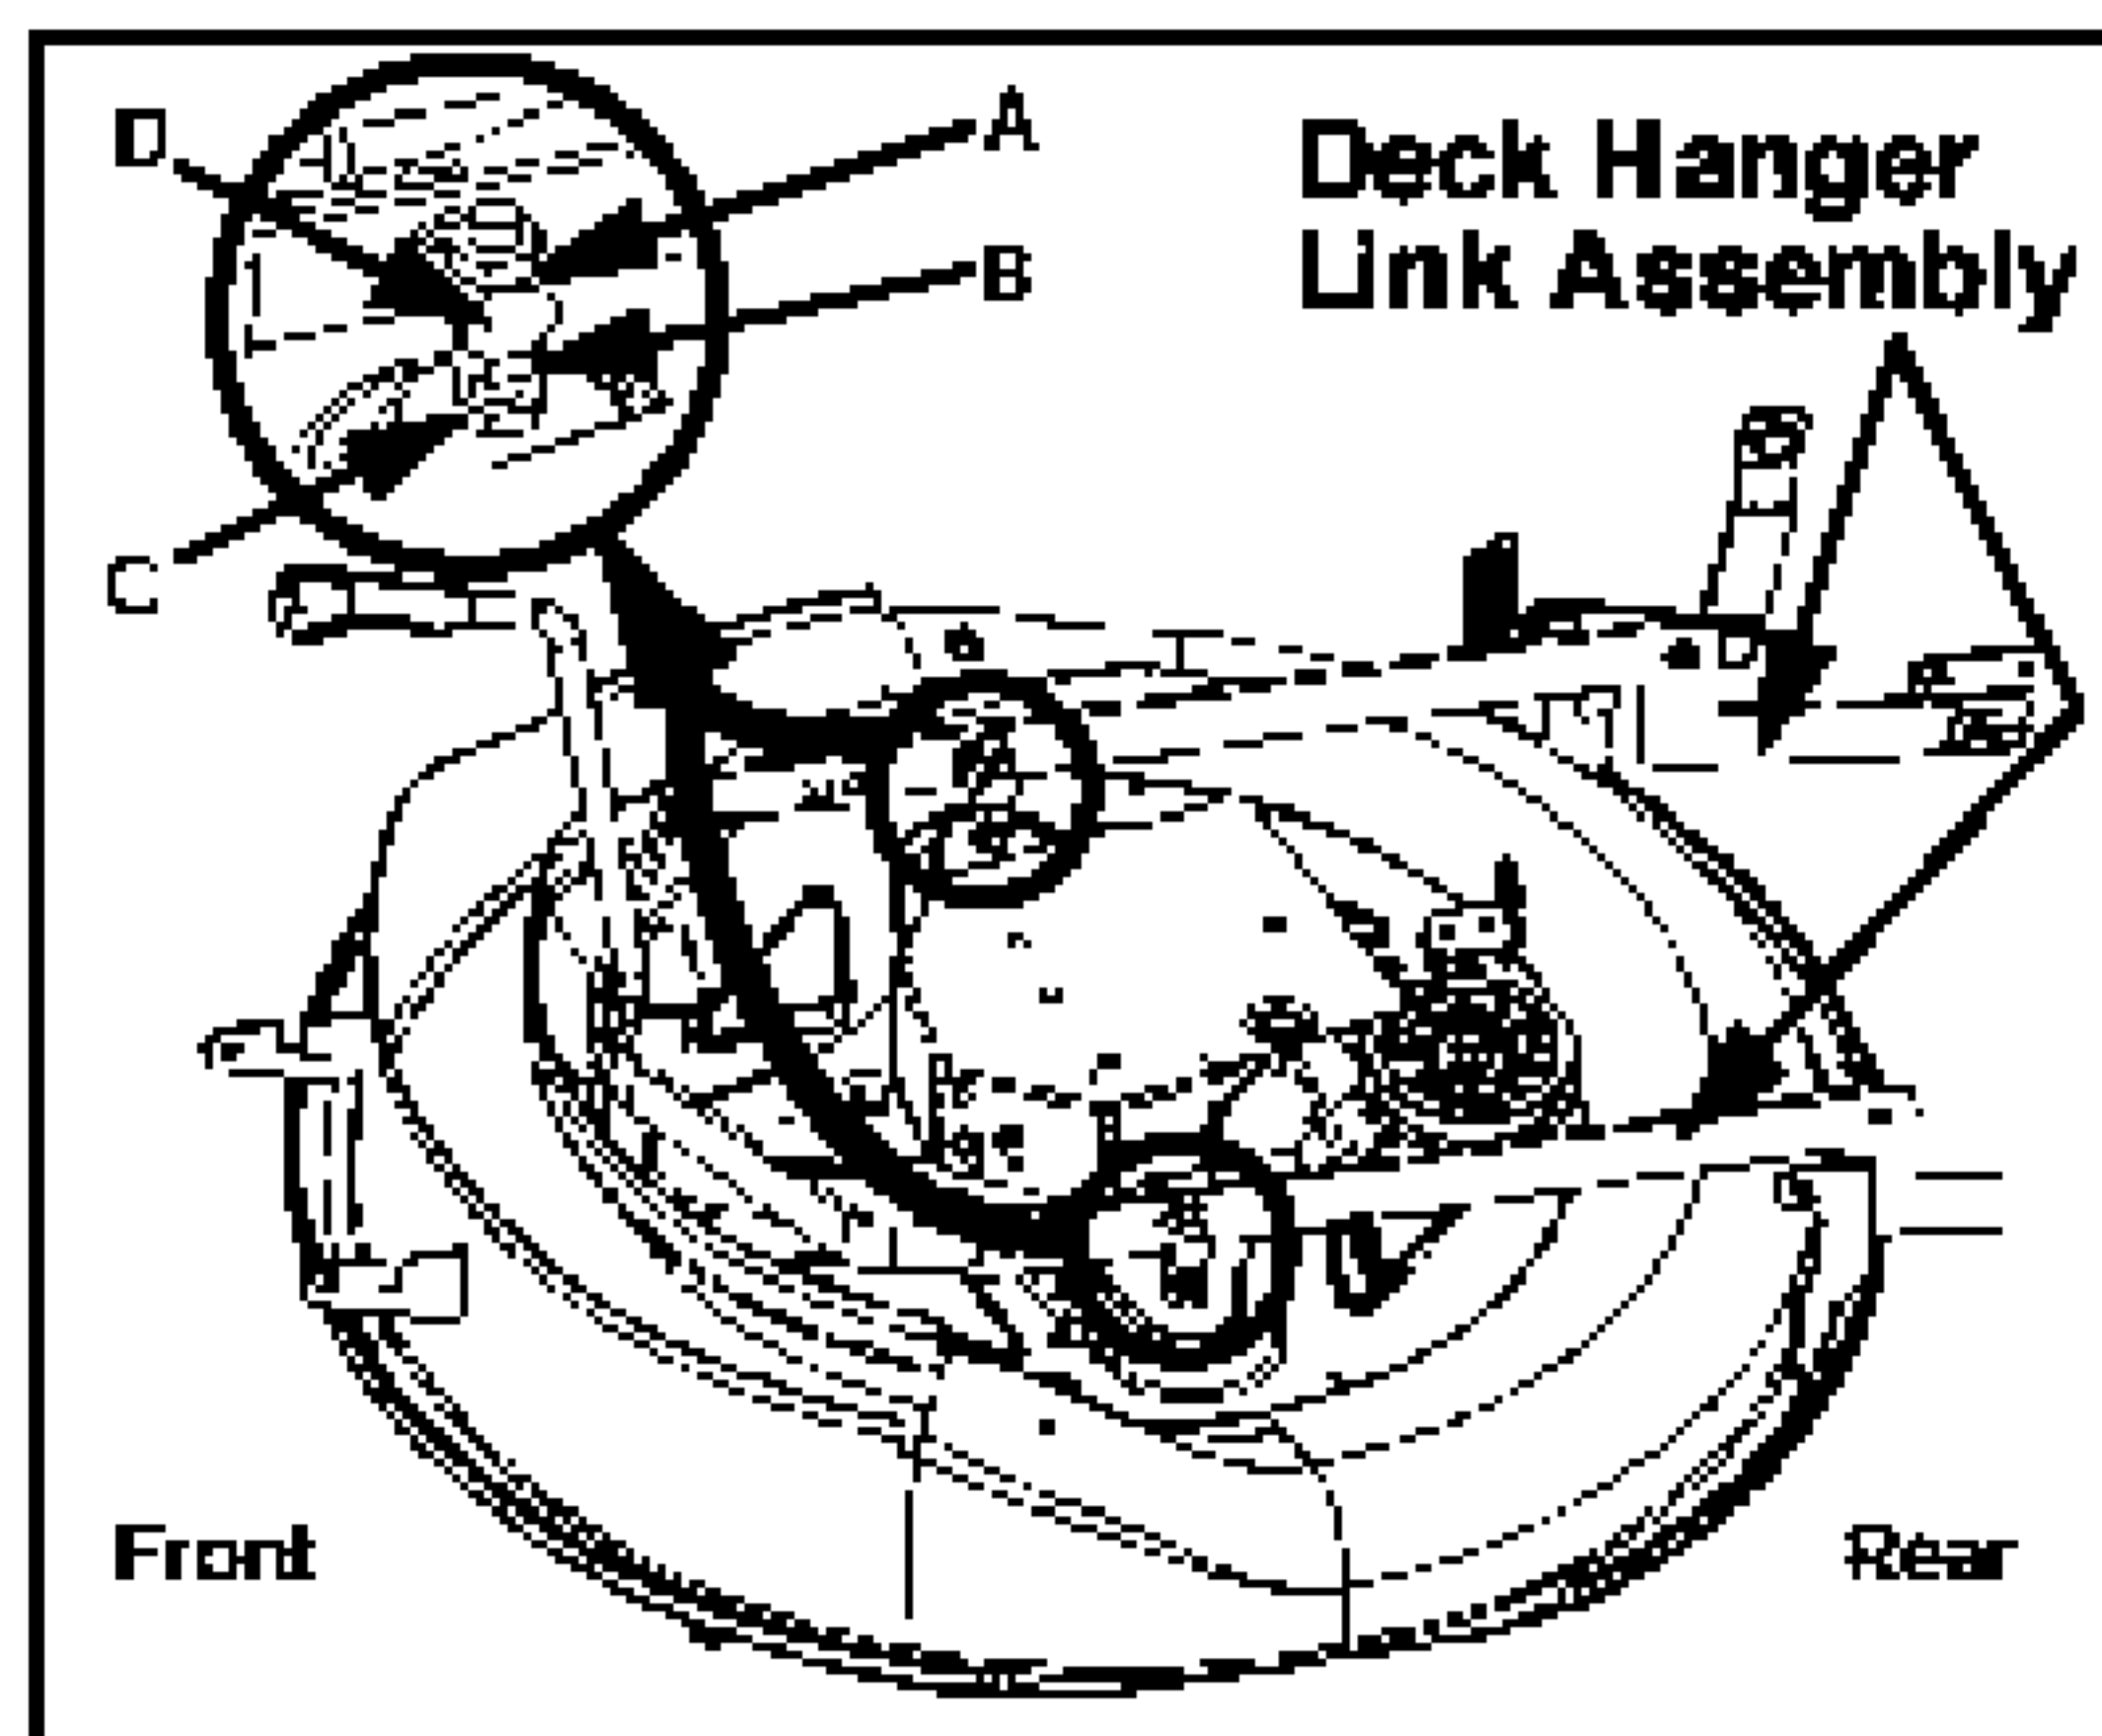
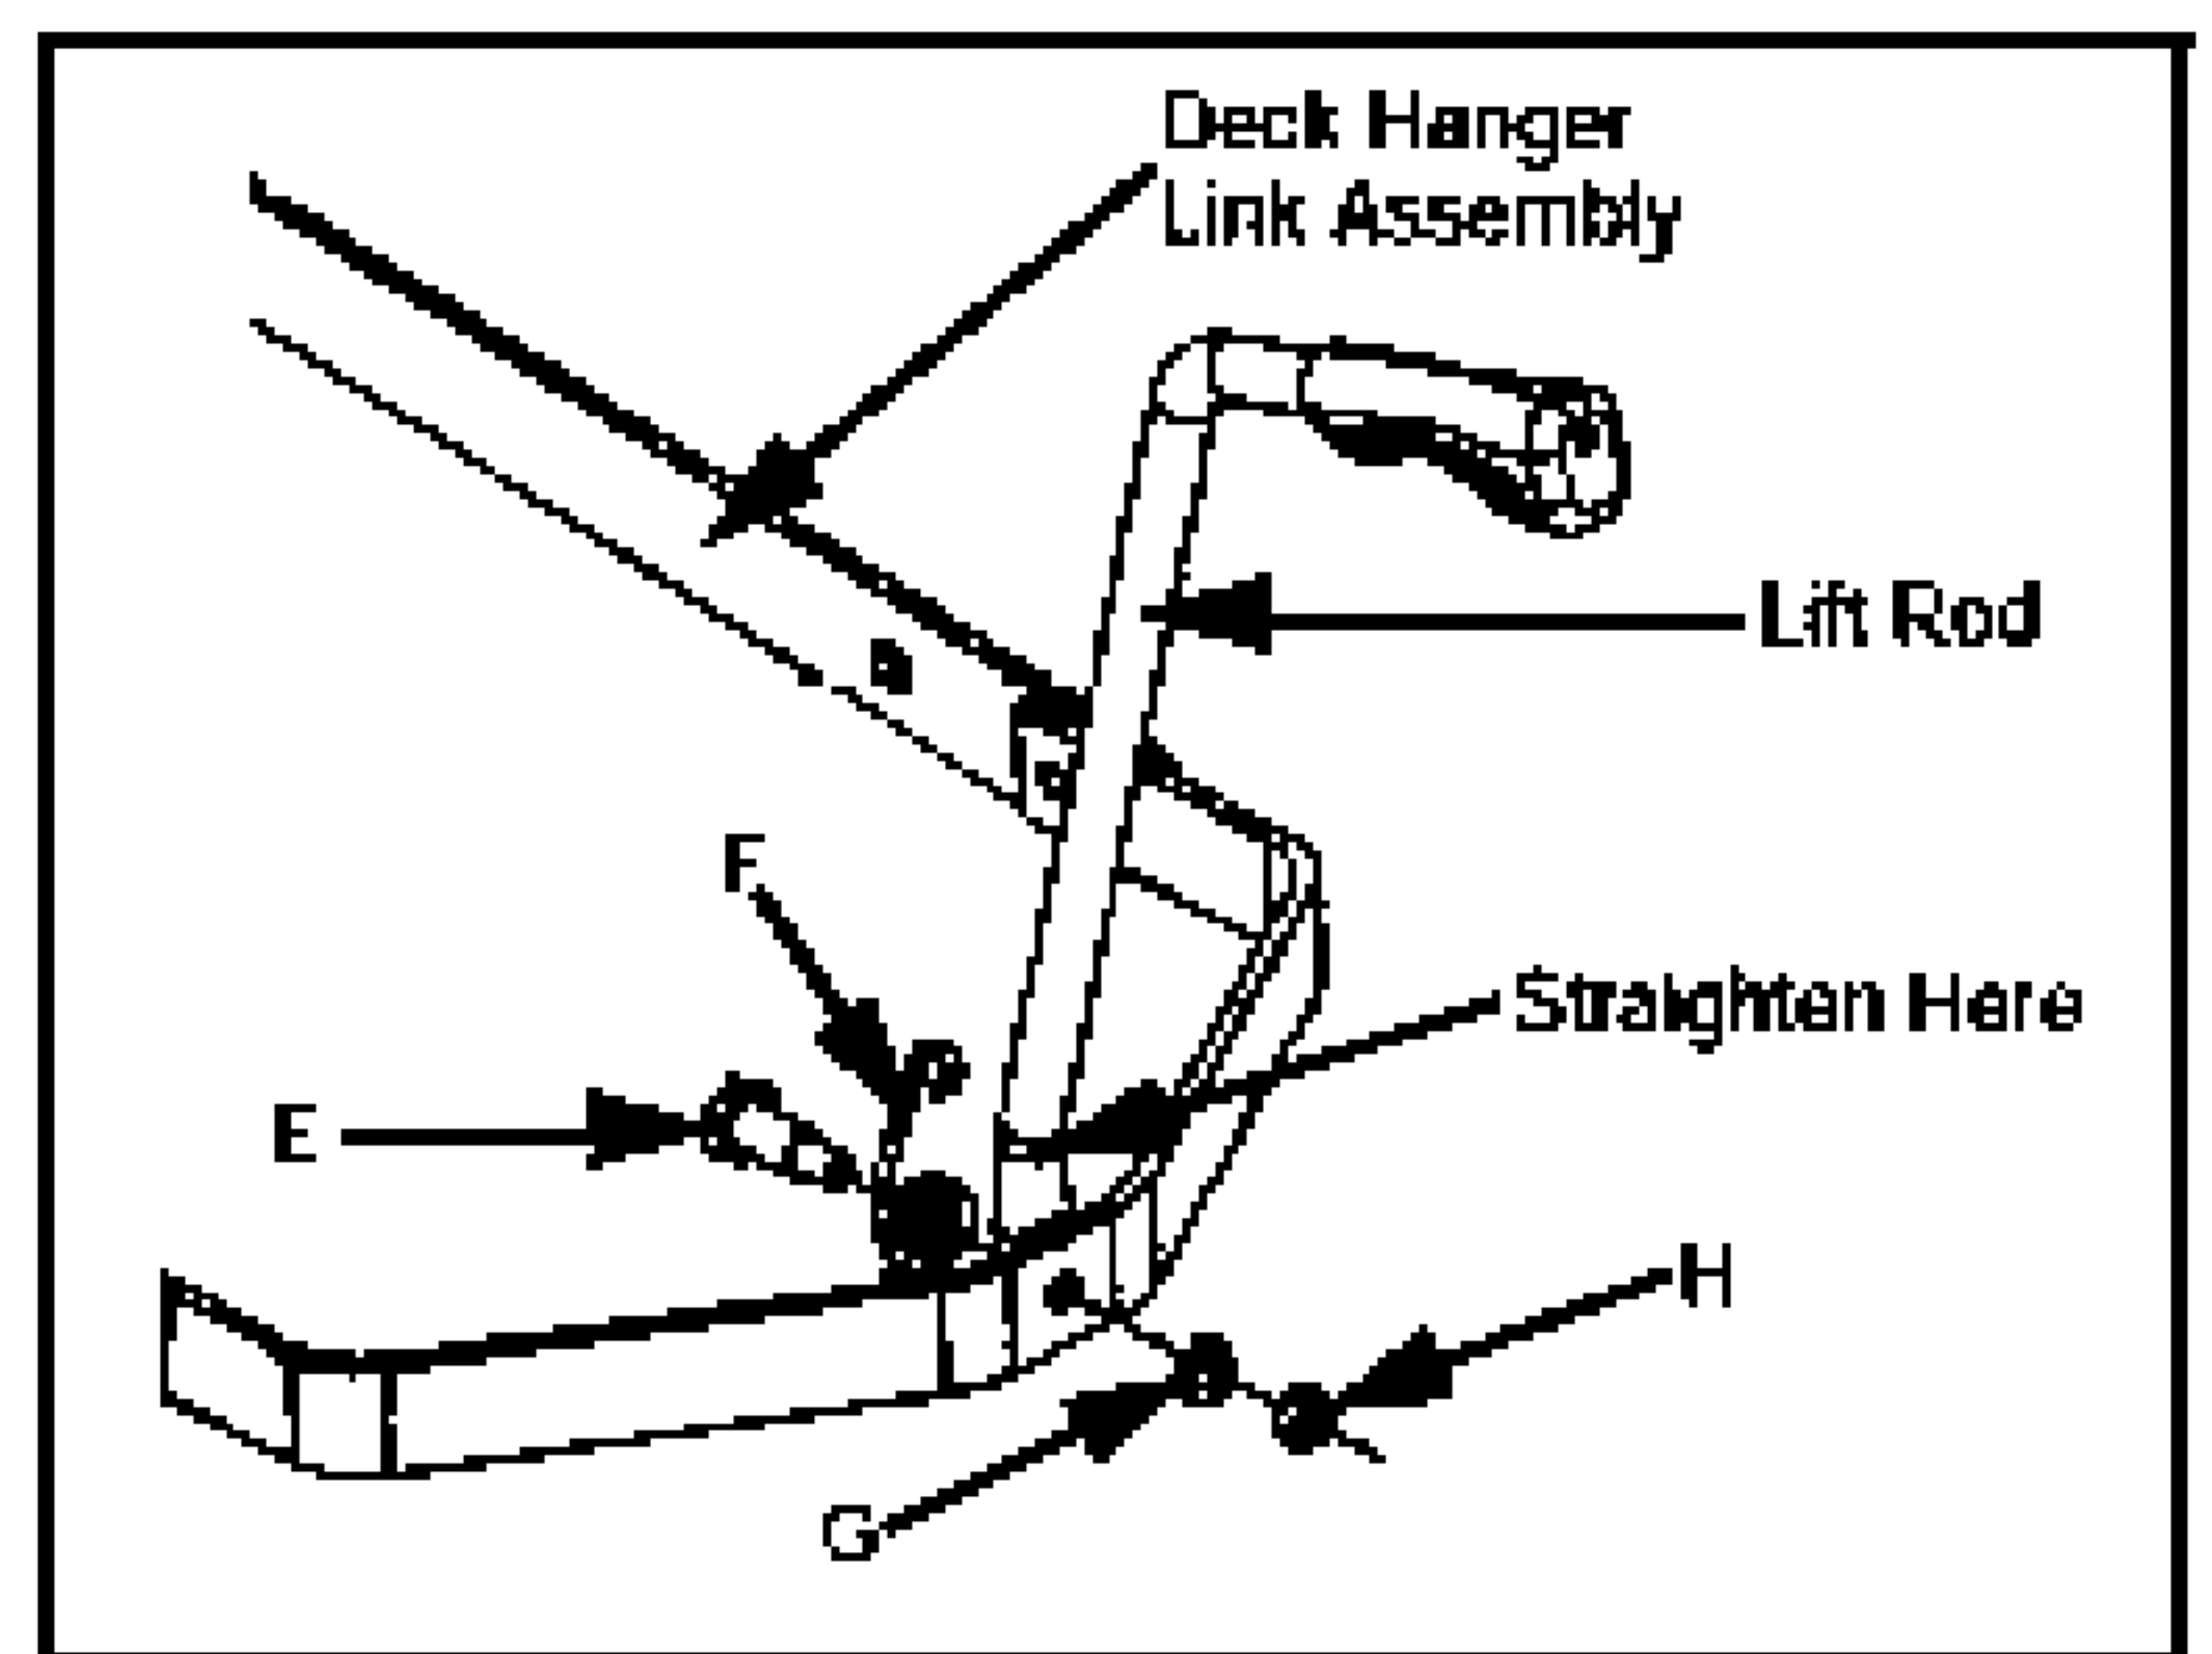

Figure 1
Figure 4
1. Completely loosen, but do not remove the top hex nut “A” of the three nuts that hold the hex bolt and the ferrule on the deck hanger link assembly. See Figure 1. See NOTE:.
4. Keeping an equal number of threads above each of the nuts, thread the upper nuts “A” down until the front tip of the blade is 1/4” to 3/8” lower than the rear tip of the blade. Threading the upper nuts “A” down raises the front of the deck. See Figure 1.
5. Thread the middle nut “B” up against the base of the ferrule “D”. Then tighten the upper nut against the top of the ferrule to lock the adjustment. See Figure 1.
2. Loosen the middle nuts “B” by turning them downward. See Figure 1.
3. By turning the top nuts “A” equal amounts in opposite directions, set both tips of the blade at an equal height from the ground. See Figure 1. NOTE: *Threading the top nut down will raise that side of the deck. Threading the top nut up will lower that side of the deck.*
4. Once the deck is level, thread the middle nuts “B” up and tighten them against the ferrules with a wrench. See Figure 1.
1. Disconnect **lift rod** from the **deck hanger link assembly** by removing the shoulder bolt “E”, spring “F”, lock washer “G”, and nut “H”. Remove the **lift rod**. See Figure 1 and Figure 4.
2. Slightly straighten the bend at the base of the **lift rod**. Reattach the **lift rod** to the **deck hanger link assembly** and check the operation of the lift mechanism. It may take a few tries to get this right. See Figure 4.